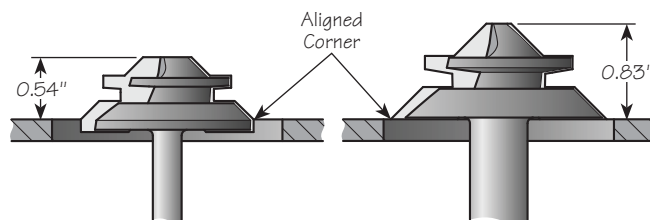

Figure 11: Setting the bit height.
2. Set the bit height so that the lowest corner of the sloped surface is aligned with the surface of the router table, as shown in **Figure 11**.